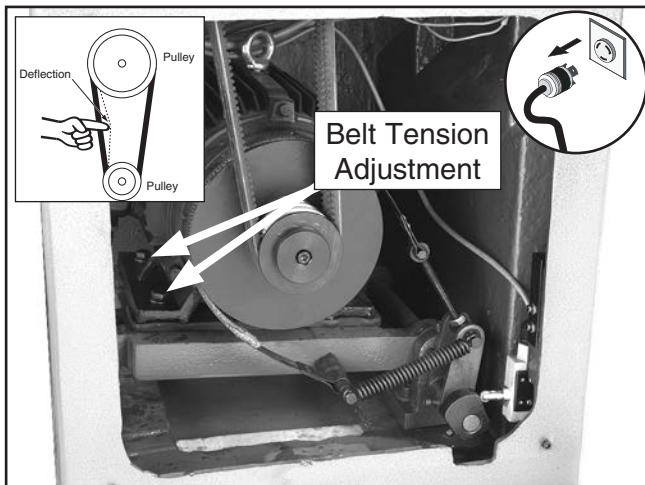

Figure 65. V-belt adjustment.
2. Open the lathe base end cover (**Figure 65**).
3. Using a wrench, adjust the belt tension hex nuts (see **Figure 65**) until there is approximately $\frac{1}{2}$ " belt deflection on each belt when pressed firmly in the center between the pulleys.